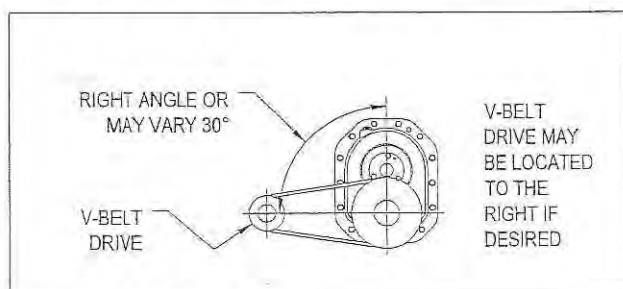

Figure 3 – Angle of V-Drive
5. If not using a Dodge Torque-Arm II motor mount, install motor and V-belt drive so belt will approximately be at right angles to the centerline between driven and input shaft. (See Fig. 3) This will permit tightening the V-belt with the torque arm.